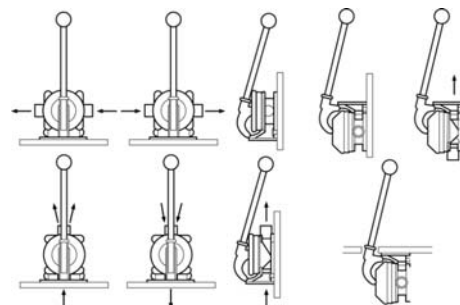

Fig. 4 Mounting arrangements for a standard model
| Fig. 4 | Mounting arrangements for a standard model   |
- With all applications, it is important that a system of safe working practice is applied to installation, use and maintenance. Ensure the waste water system is drained before installation. In order to securely fasten the unit, ensure that the mounting surface is a minimum thickness of 18mm (45/64") as shown in Fig. 4
The Gusher® 10 is designed for mounting on deck / bulkhead (BP3708), or through deck / bulkhead (BP3740). The handle can be fixed on four different positions relative to the inlet and outlet (see Fig. 4).